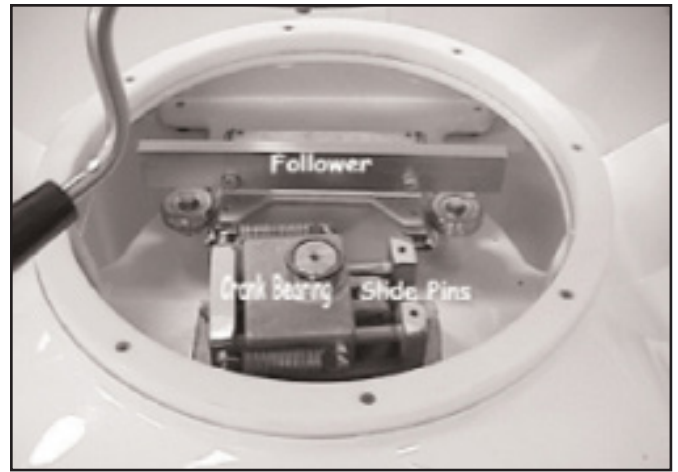

Figure 25
7. To service crank bearings, slide pins, and follower (Fig. 25), remove crank plate, page 15, Item 37, by removing the forward center plastic plug, Item 2, and hex shoulder bolt, Item 1 from the crank plate. To do this, the silicone in the center of the plug must be pried out, then insert the bolt provided (*1/4"-20x3/4" Hex Hd Capecrew*) with your warranty packet into the plug, and turn clockwise until the plug can be removed. After removing the hex shoulder bolt, grasp both sides of the crank plate and lift. (See maintenance schedule, page 11). Replace crank plate. Remove bolt from plug and tap plug back into crank plate until flush with surface. Apply a small amount of silicone into hole in plug. Save the bolt for future use.